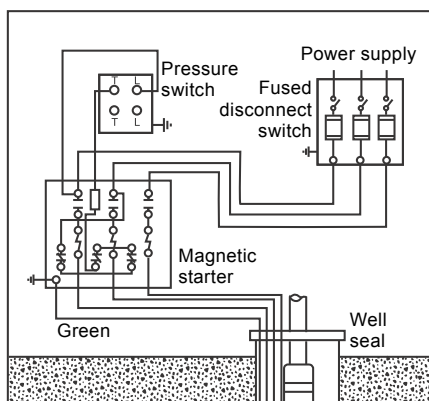

Fig. 12 Three-phase wiring diagram for Grundfos motors and other motor manufacturers
**Each of the three motor legs must be protected with overloads.** The thermal overloads must trip in less than 10 seconds at locked rotor (starting) current. A three-phase motor wiring diagram is shown in fig. 12.